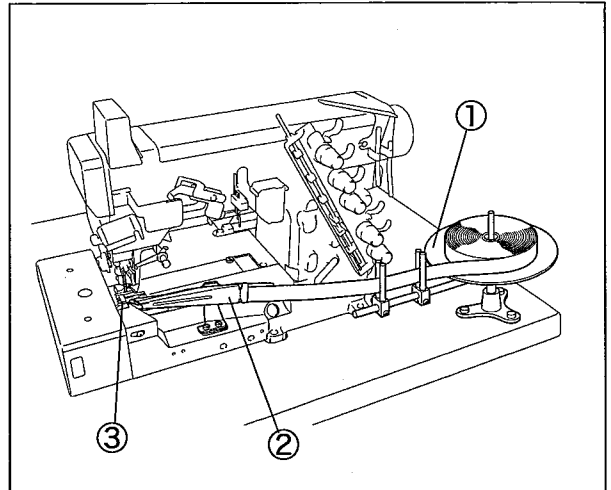

Fig. 42
Set the tape role on the tape stand ① (Fig. 42).